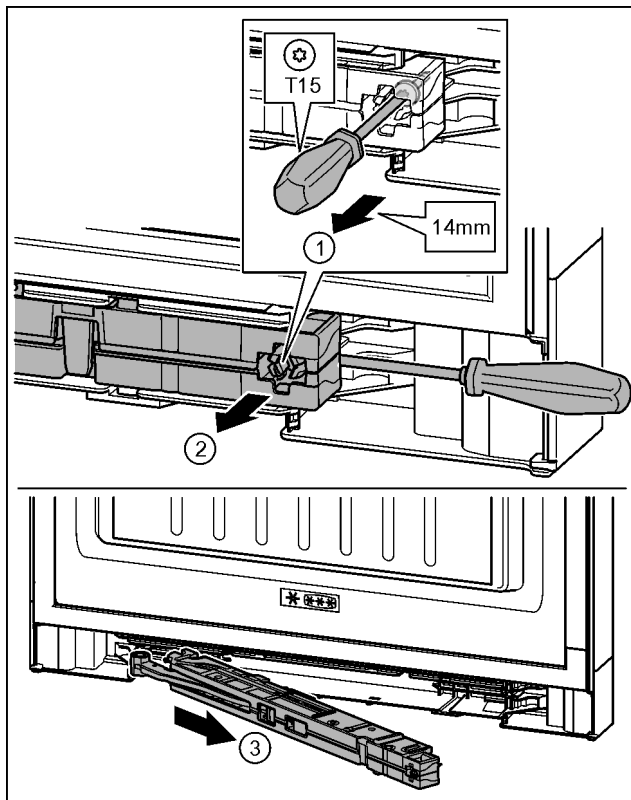

Fig. 17
- Undo the screw on the soft stop mechanism about 14 mm with a T15 screwdriver. Fig. 17 (1)
- Insert the screwdriver on the handle side behind the soft stop mechanism. Turn the unit forwards. Fig. 17 (2)
- Remove the unit. Fig. 17 (3)